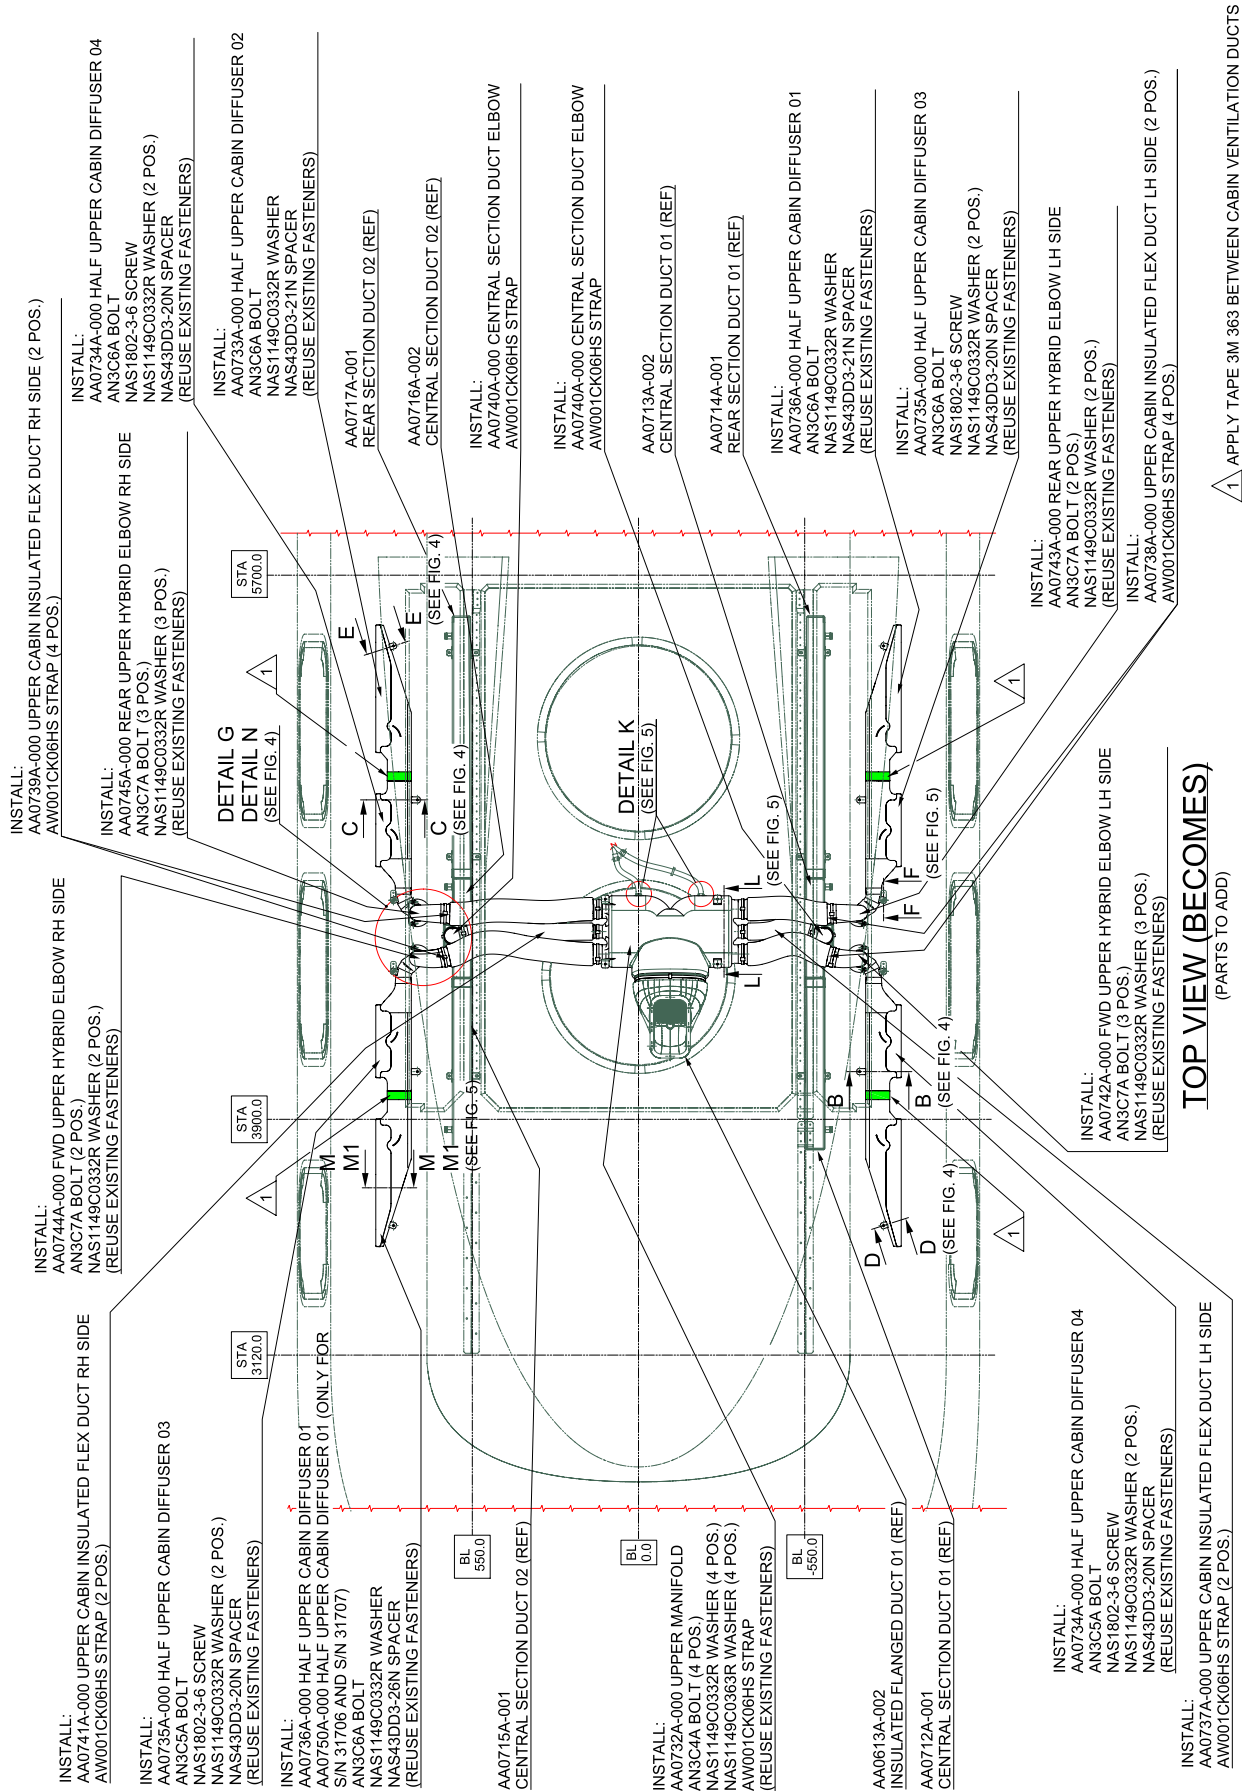

Figure 3
- 2.22 With reference to Figure 3 Detail K remove n°2 water drain lines. Retain the existing hardware for later reuse.
- 2.24 With reference to Figure 3 Section L-L, install n°1 upper manifold P/N AA0732A-000 using n° 1 strap P/N AW001CK06HS and existing hardware.
- 2.25 With reference to Figure 3 Detail K, install on upper manifold P/N AA0732A-000 n°2 water drain lines using existing hardware.
- 2.26 With reference to Figure 3 Section M1-M1, install n°1 half upper cabin diffuser 01 P/N AA0750A-000, using n°1 bolt P/N AN3C6A and existing hardware.
- 2.27 With reference to Figure 3, install n°1 half upper cabin diffuser 03 P/N AA0735A-000 using n°1 screw NAS1802-3-6, n°1 spacer P/N NAS43DD3-20N and existing hardware.
- 2.28 With reference to Figure 3, wrap tape 3M 363 between half upper cabin diffuser 03 P/N AA0735A-000 and half upper cabin diffuser 01 P/N AA0736A-000.
- 2.29 With reference to Figure 3 Section C-C, install n°1 half upper cabin diffuser 04 P/N AA0734A-000, using n°1 bolt P/N AN3C6A, n°1 screw NAS1802-3-6, n°1 spacer P/N NAS43DD3-20N and existing hardware.
- 2.30 With reference to Figure 3 Section E-E, install n°1 half upper cabin diffuser 02 P/N AA0733A-000 using n°1 bolt P/N AN3C6A, n°1 spacer P/N NAS43DD3-21N and existing hardware.
- 2.31 With reference to Figure 3, wrap tape 3M 363 between half upper cabin diffuser 02 P/N AA0733A-000 and half upper cabin diffuser 04 P/N AA0734A-000.
- 2.32 With reference to Figure 3, install n°1 half upper cabin diffuser 01 P/N AA0736A-000, using n°1 bolt P/N AN3C6A, n°1 screw NAS1802-3-6, n°1 spacer P/N NAS43DD3-20N and existing hardware.
- 2.33 With reference to Figure 3 Section F-F, install n°1 half upper cabin diffuser 03 P/N AA0735A-000 using n°1 bolt P/N AN3C6A, n°1 spacer P/N NAS43DD3-21N and existing hardware.
- 2.34 With reference to Figure 3, wrap tape 3M 363 between half upper cabin diffuser 01 P/N AA0736A-000 and half upper cabin diffuser 03 P/N AA0735A-000.
- 2.35 With reference to Figure 3 Section B-B, install n°1 half upper cabin diffuser 04 P/N AA0734A-000, using n°1 screw NAS1802-3-6, n°1 spacer P/N NAS43DD3-20N and existing hardware.
- 2.36 With reference to Figure 3 Section D-D, install n°1 half upper cabin diffuser 02 P/N AA0733A-000 using n°1 bolt P/N AN3C6A and existing hardware.
- 2.37 With reference to Figure 3, wrap tape 3M 363 between half upper cabin diffuser 04 P/N AA0734A-000 and half upper cabin diffuser 03 P/N AA0735A-000.
- 2.38 With reference to Figure 3, install n°1 upper cabin insulated flex duct central RH P/N AA0741A-000, n°1 Section duct elbow P/N AA0740A-000 using n°3 straps P/N AW001CK06HS.
- 2.39 With reference to Figure 3 Detail G Detail N, install n°1 FWD upper hybrid elbow RH side P/N AA0744A-000 using existing hardware.
- 2.40 With reference to Figure 3, install n°1 upper cabin insulated flex duct RH P/N AA0739A-000 using n°2 straps P/N AW001CK06HS.
- 2.41 With reference to Figure 3 Detail G Detail N, install n°1 rear upper hybrid elbow RH side P/N AA0745A-000 using existing hardware.
- 2.42 With reference to Figure 3, install n°1 upper cabin insulated flex duct RH P/N AA0739A-000 using n°2 straps P/N AW001CK06HS.
- 2.43 With reference to Figure 3, install n°1 upper cabin insulated flex duct central LH P/N AA0737A-000, n°1 Section duct elbow P/N AA0740A-000 using n°3 straps
- 2.44 With reference to Figure 3, install n°1 upper cabin insulated flex duct central LH P/N AA0737A-000, n°1 Section duct elbow P/N AA0740A-000 using n°3 straps P/N AW001CK06HS.
- 2.45 With reference to Figure 3 Detail G Detail N, install n°1 FWD upper hybrid elbow LH side P/N AA0742A-000 using existing hardware.
- 2.46 With reference to Figure 3, install n°1 upper cabin insulated flex duct LH P/N AA0738A-000 using n°2 straps P/N AW001CK06HS.
- 2.47 With reference to Figure 3 Detail G Detail N, install n°1 rear upper hybrid elbow LH side P/N AA0743A-000 using existing hardware.
- 2.48 With reference to Figure 3, install n°1 upper cabin insulated flex duct LH P/N AA0738A-000 using n°2 straps P/N AW001CK06HS.